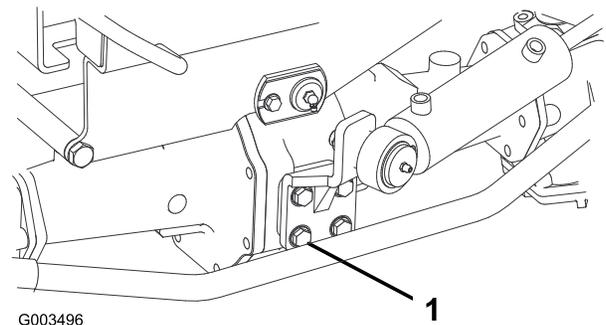

Figure 54
2. Check the torque on the steering cylinder mounting bolts (Figure 54). Torque should be 48 to 60 ft-lb.